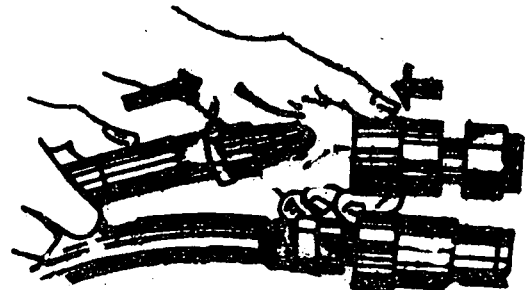

Fig. 2
- a) Connect the end of the hose to the oil outlet fitting (Fig. 2).